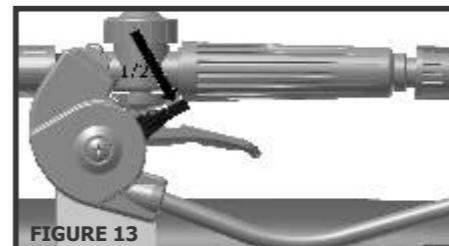

FIGURE 13
- Place the throttle in the half-way (1/2) mark - Figure 13;